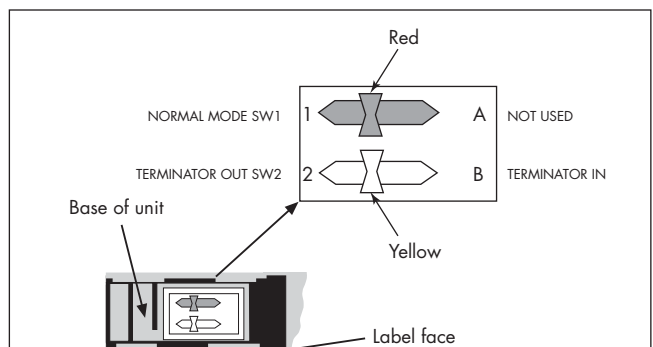

Figure 6.82: Functions of switches on the base of an MTL5995
To comply with fieldbus standards, each bus must be terminated at both ends. MTL's FBT1-IS or FCS-MBT fieldbus terminators (see section 6.37) can be supplied for this purpose or, for installations in which the MTL5995 is located at one end of the fieldbus trunk, it includes an internal terminator which is enabled by a yellow switch (B) located on the base of the unit (see figure 6.82). A second, red switch (A) in the base of the unit should be kept in the normal mode position.